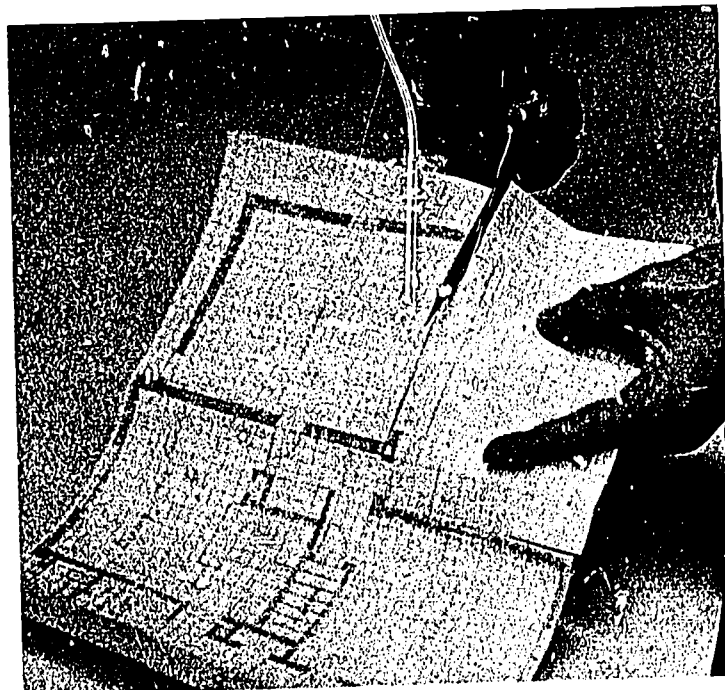

Fig. 82-1. Cutting Out Floor Plan
2. Use scissors to cut the floor plan from grid paper. Be sure to cut along the *outside* wall line of the floor plan as shown in Fig. 82-1. (Omit Step 2 if directed to do so by your teacher.)